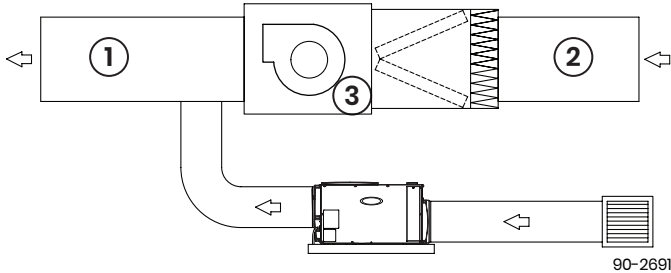

Figure 16: Discharge to Supply Side
- Use when both sides of the duct system are accessible (*see Figure 16*).
- Duct to the supply side of the HVAC system for air handler applications where air is pulled through the AC coil (*see Figure 16*).